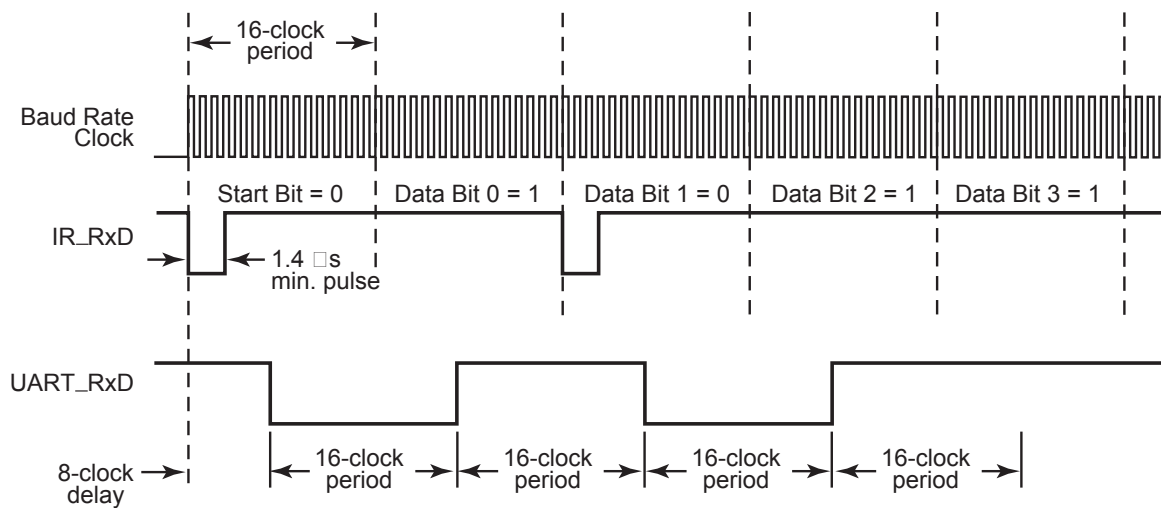

Figure 28. Infrared Data Reception
The UART baud rate clock is used by the IrDA endec to generate the demodulated signal (RxD) that drives the UART. Each UART bit period is sixteen baud-clocks wide. Each IR_RXD bit is encoded during a bit period such that a 0 is represented by a pulse and a 1 is represented by no pulse. The IrDA Physical Layer Specification describes a nominal pulse as being $\frac{3}{16}$ of a bit period wide. In this case, if the data to be received is a logical 0 (Low), a 3-clock-wide Low (0) pulse is received following a 7-clock High (1) period. Following the 3-clock Low pulse is a 6-clock High pulse to complete the full 16-clock data period. If the data to be received is a logical 1 (High), the IR_RxD signal is held High (1) for the full 16-clock period. Data reception is displayed in Figure 28.